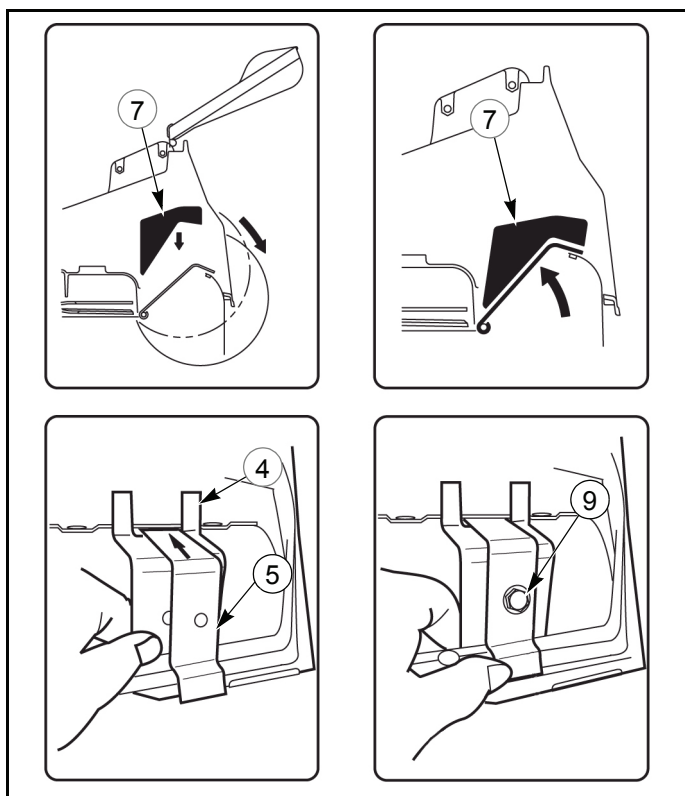

Fig. 4-14
3. Lift guard and place the spacer ⑦ in the discharge chute. Install and bolt ⑨ the two clips ④ and ⑤ together as shown. Fig. 4-14